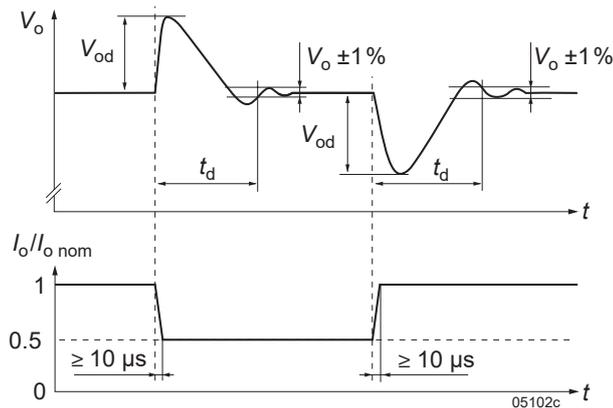

Fig. 3
- ⁴ Recovery time until V_o returns to $\pm 1\%$ of V_o ; see fig. 3.